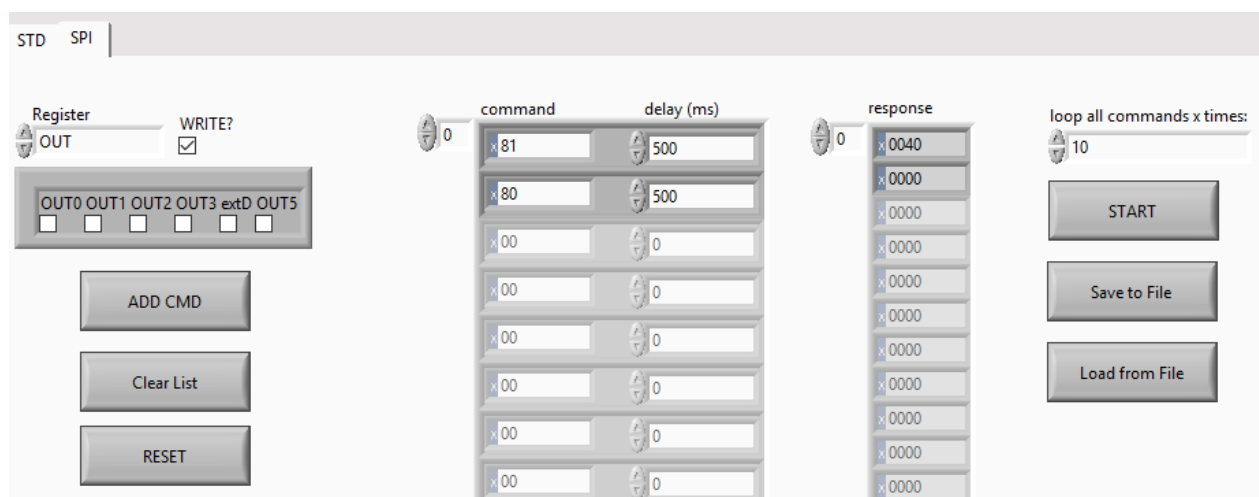

Figure 39 - Response of SPOCTM+2 in response list
- The response of the SPOCTM+2 is shown in the response list (See Figure 39)